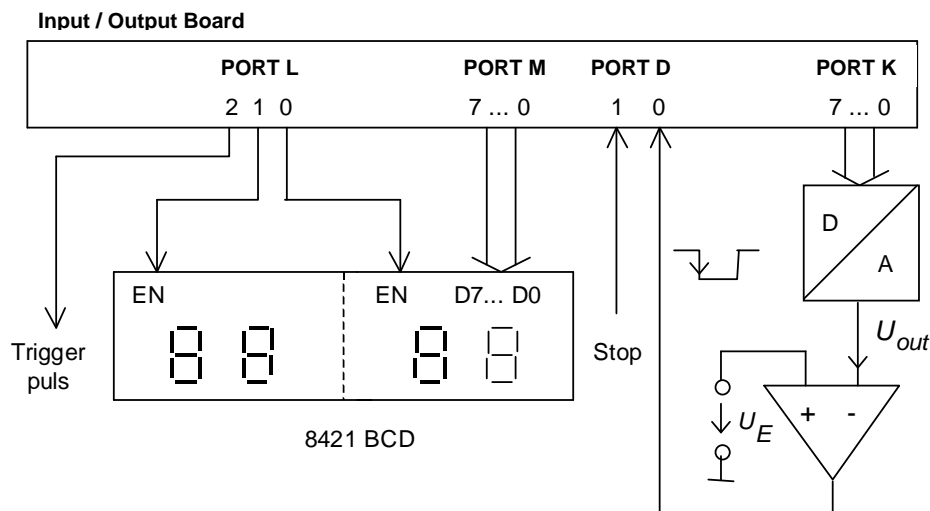

Figure 2 Circuit Diagram
The transfer characteristics of the external D/A converter may be found in table 1. Figure 2 shows the circuit diagram. The trigger pulse signal generates a rising edge at the start of a conversion cycle and is used to trigger the oscilloscope.
Using port K increasing binary numbers are fed to the D/A converter (0000 0000, 0000 0001, ..., 1111 1111). Figure 2 shows the circuit diagram. The converter generates a staircase output voltage  $U_{out}$  according to the transfer characteristics in table 1. When  $U_{out}$  becomes greater than the input voltage to measure  $U_E$ , the comparator switches to low. The according digital input value is proportional to the input voltage  $U_E$ . The voltage has to be output with three digits using ports L and M. Hint: When the digital input is changed, there is a delay of about 30  $\mu$ s until the comparator output is stable.
At port K in figure 2 first a binary number is output with only MSB set (1000 0000). If the corresponding output voltage  $U_{out}$  is less than the input voltage  $U_E$ , the comparator puts out a high level, else the voltage level at PD(0) is switched to low. In this way the decision is possible, whether the MSB has to stay set or whether it has to be cleared. This procedure is repeated for all other bit positions. The resulting binary number is proportional to  $U_E$ . The voltage has to be output with three digits using ports L and M. Hint: When the digital input is changed, there is a delay of about 30  $\mu$ s until the comparator output is stable.
- Experiments 2.1.1 to 2.1.3 only: Connect PL(2) (see figure 2) to the channel of an oscilloscope and use him as trigger source. Display the output voltages of D/A converter, comparator and analog input voltage. Find the period of a conversion cycle.